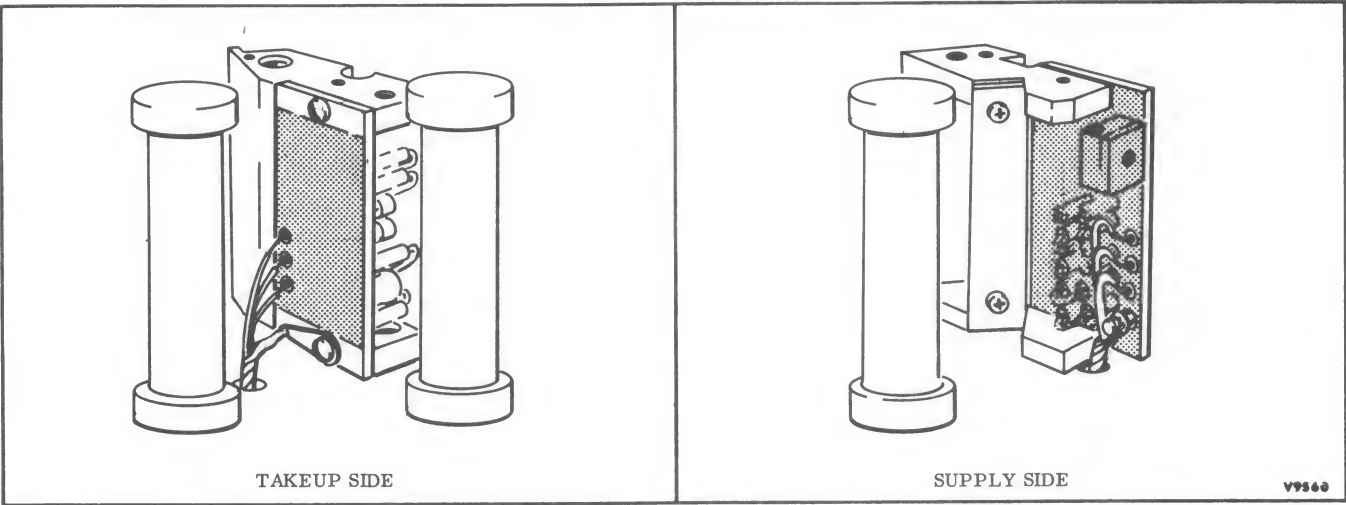

Figure 2-2. Connection of Wires to Compliance Arm Circuit Boards
j. Clean up the wire ends, and solder each wire to the appropriate pin listed in Table 2-2 and illustrated in Figure 2-2. Solder the shield to pin E4 first, then solder the wires to E3, E2 and E1 in that order. Do not shorten the wires (especially on the take-up side), as excess cable in the harness is limited.